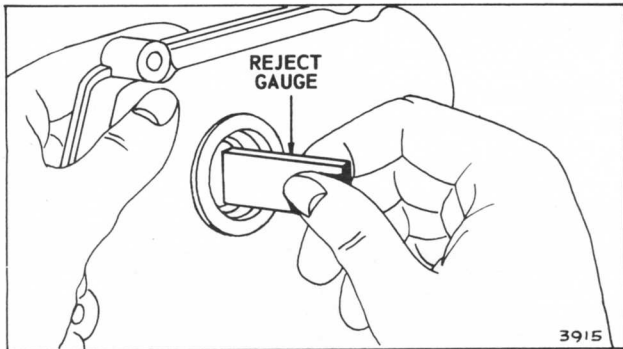

FIGURE 9-4
2. The plug gauge will enter the bearing. Try the gauge at several positions in the bearing. See figure 9-4.